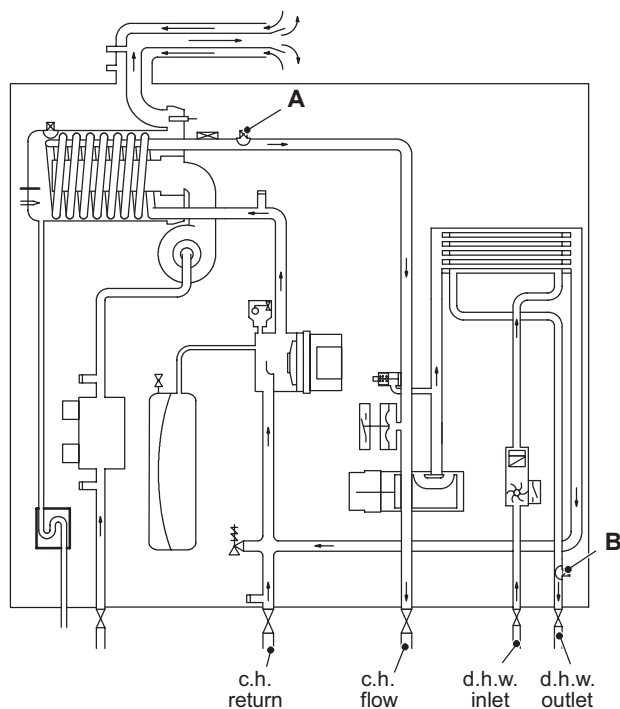
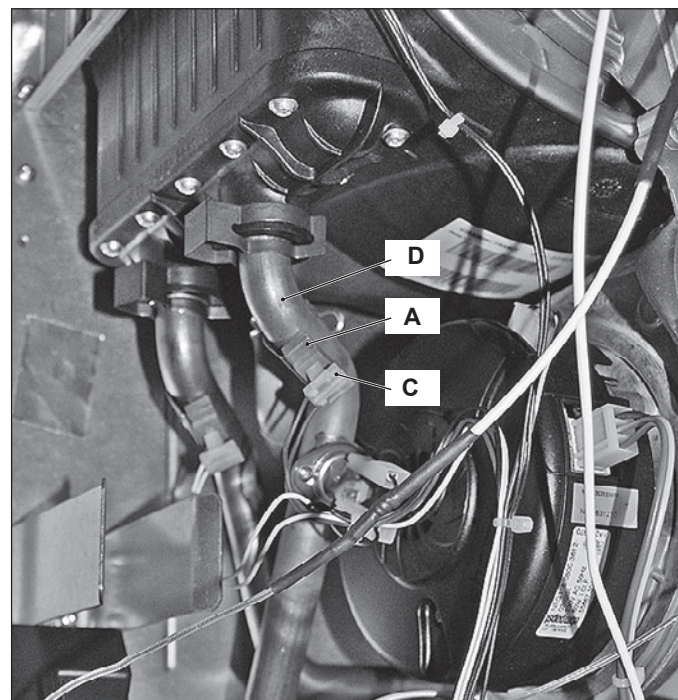
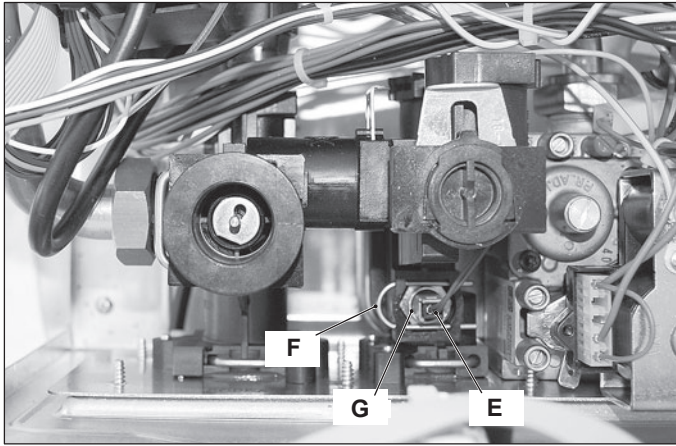

Figure 15.2
Figure 15.3
Figure 15.4
On the boiler there are two temperature probes. One on the output of the primary condensing heat exchanger (c.h. temperature probe) A in Figure 15.2 and Figure 15.3; one on the output of the d.h.w. heat exchanger (d.h.w. temperature probe) B in Figure 15.2 and Figure 15.4.
- 3 Remove the electric connector C and unscrew the c.h. Temperature probes A (Figure 15.3).
- 3 Remove the electric connector E (Figure 15.4)